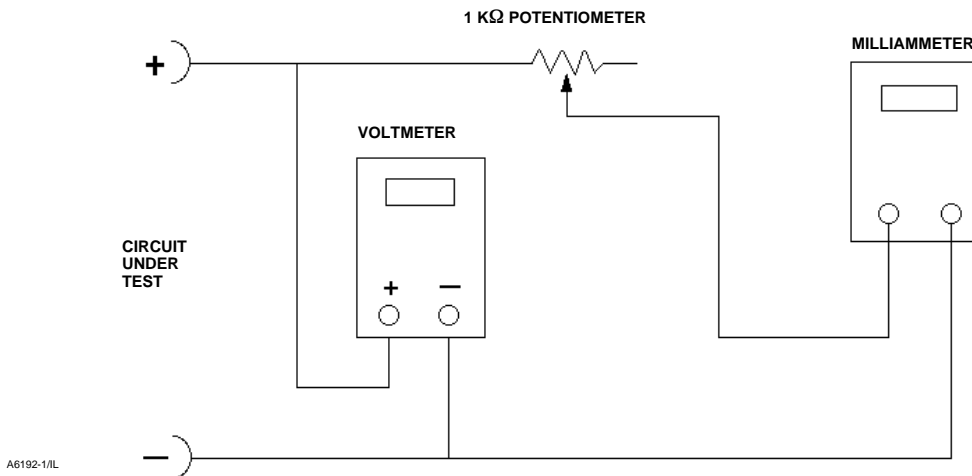

Figure 2-25. Voltage Test Schematic
1. Disconnect the field wiring from the control system and connect equipment as shown in figure 2-25 to the control system terminals.
3. Increase the resistance of the 1 KΩ potentiometer, shown in figure 2-25, until the current observed on the milliammeter begins to drop quickly.